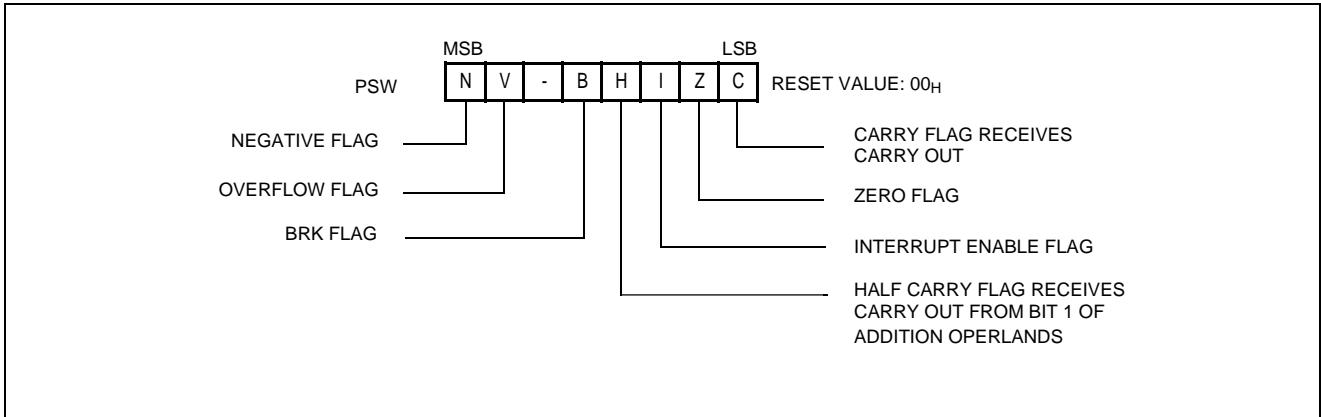

Figure 9-3 PSW (Program Status Word) Register
**Program Status Word:** The Program Status Word (PSW) contains several bits that reflect the current state of the CPU. The PSW is described in Figure 9-3 . It contains the Negative flag, the Overflow flag, the Break flag the Half Carry (for BCD operation), the Interrupt enable flag, the Zero flag, and the Carry flag.